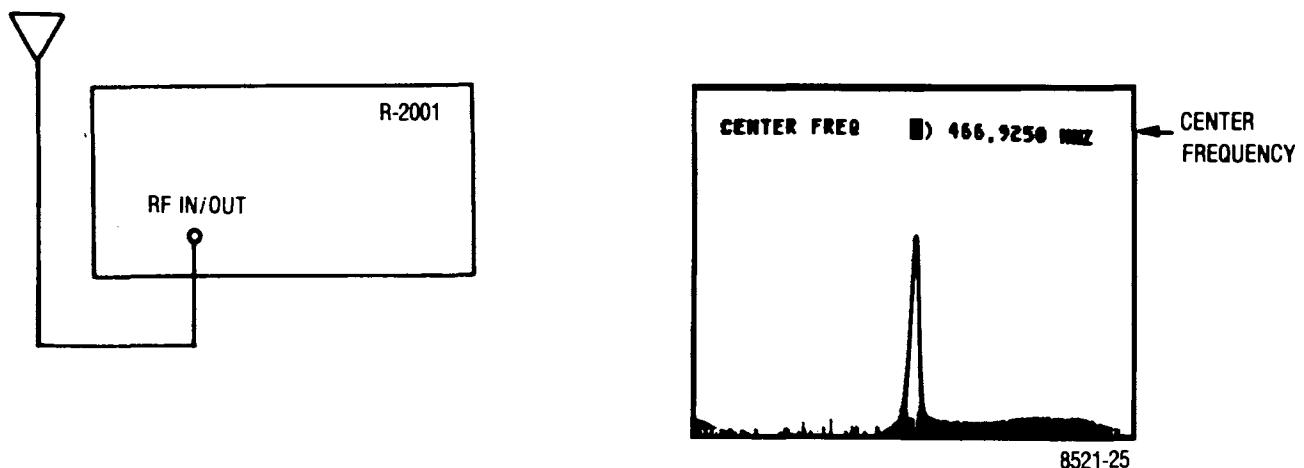

Figure 4-6. Spectrum Test Setup and CRT Display
**4-11. SPECTRUM ANALYZER.** Input to the spectrum analyzer is through the RF In/Out connector. Select the spectrum analyzer position on the DISPLAY column. Place the FUNCTION switch in the monitor position. Select the desired width of sweep by the Dispr/Sweep control. The center frequency is selected from the memory or entered directly from the keyboard, it is displayed at the top-right of the CRT. The following is an example of locating the frequency of an incoming signal with the spectrum analyzer (Figure 4-6).